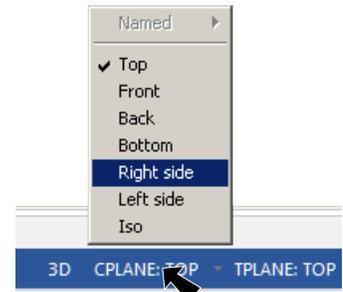

Fig. 17
Step 1. Change CPlane to **Right Side**. Click **CPLANE** in Status bar at bottom of the graphics window and click **Right side** from the menu, **Fig 17**.